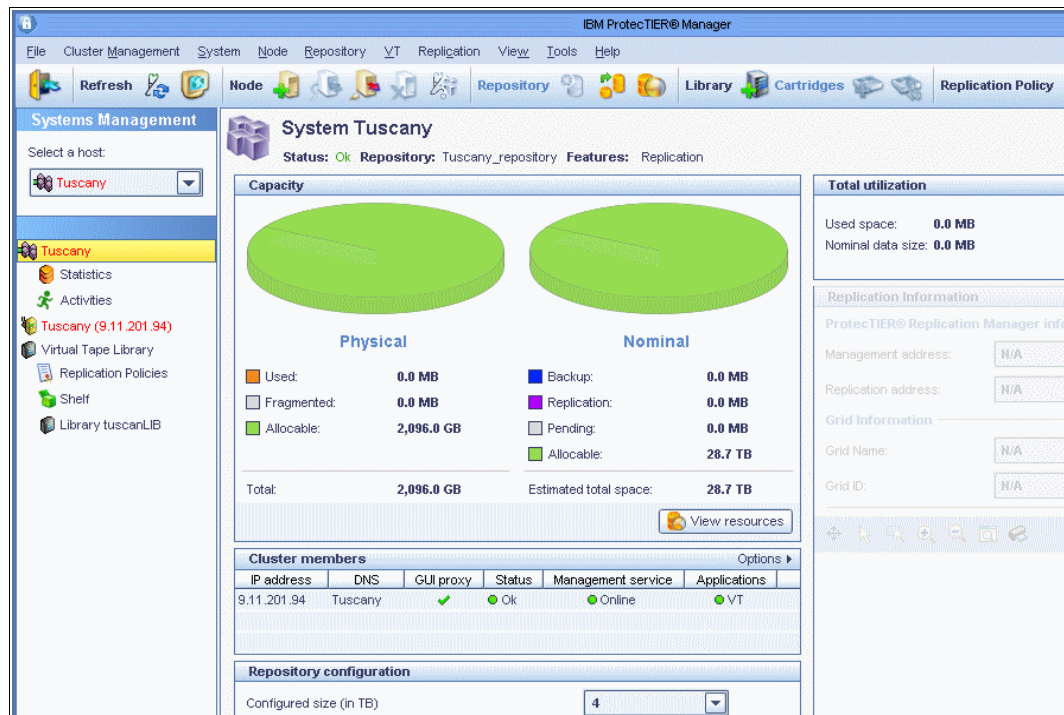

Figure 10-11 Increased repository capacity
10. Click **Yes**. The Increase repository wizard closes and the ProtecTIER system temporarily goes offline to increase the repository capacity. When the system goes back online, you can check the result, as shown in Figure 10-11.